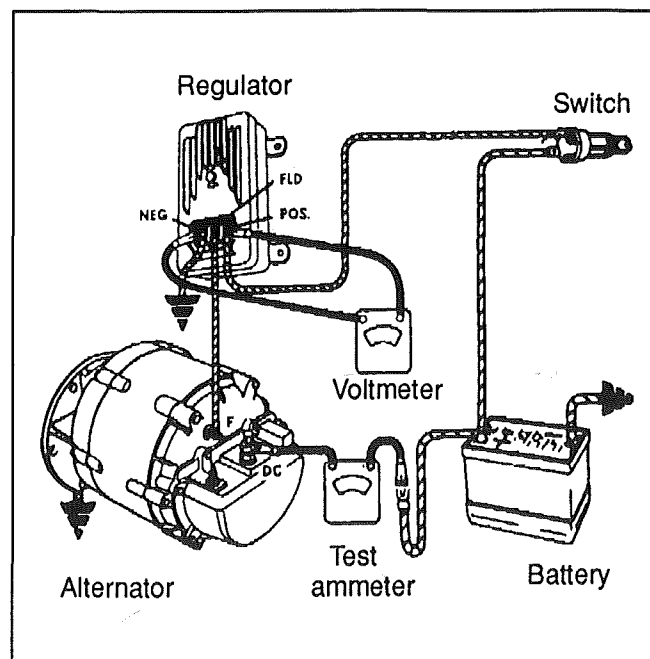

FIG. 29
1. To check the voltage setting, connect a voltmeter across the "POS" and "NEG" terminals on the regulator, and an ammeter at the "DC" terminal on the alternator. Refer to figure 29.